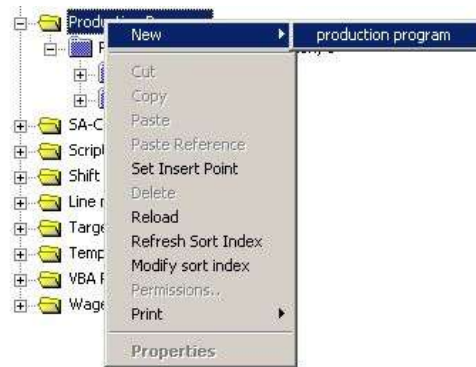
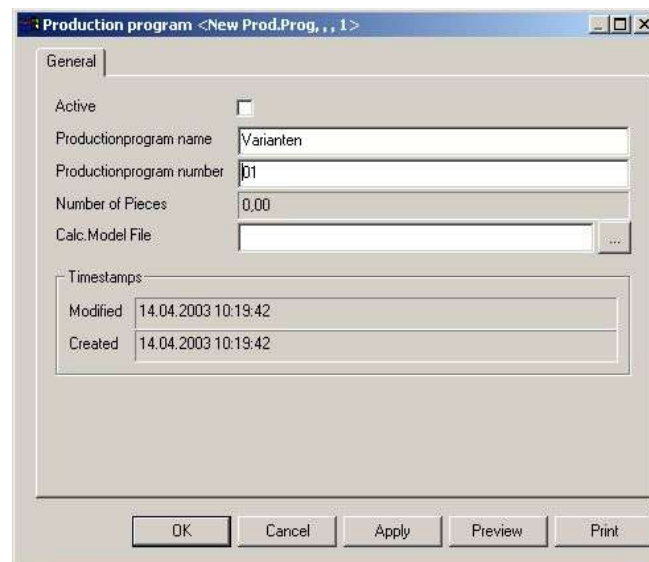

Figure 57: Contextual Menu – Creating a Production Program
Figure 58: Production Program Properties Dialog
- 3) Create a new production program using the **New** menu item. *Please refer to the Figure 57 and Figure 58.*